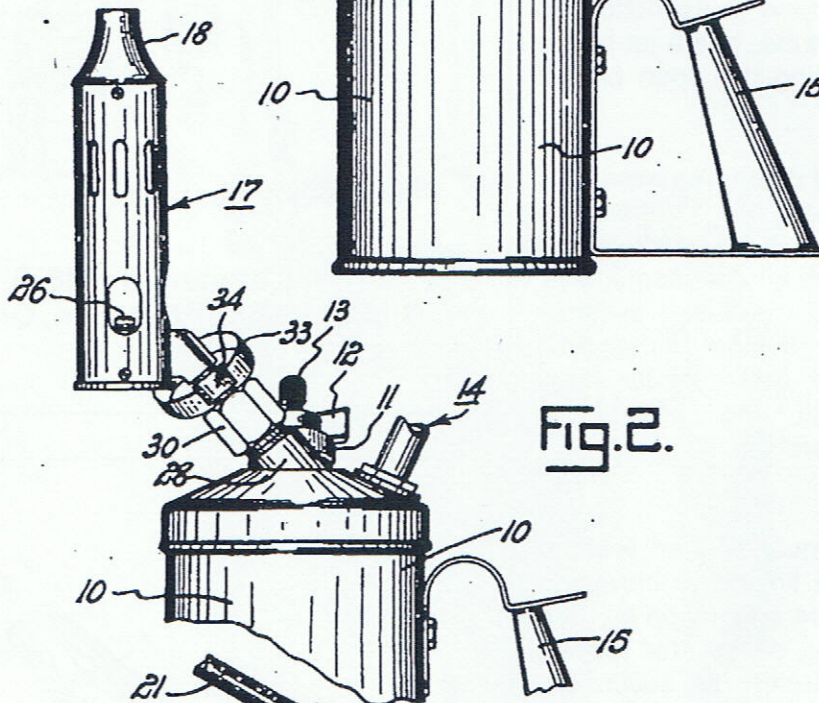

Fig. 2.
- (c) In Fig. 2, oil is forced through an external tube, which is coiled around the burner; the purpose is to vaporize the fuel on its way to the burner jet.